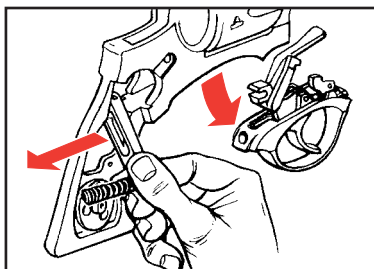

Figure 12
6. Pull trigger guard latch to the rear (using mainspring lever) and simultaneously pull trigger guard assembly, intact, out from bottom of frame (See Figure 12).